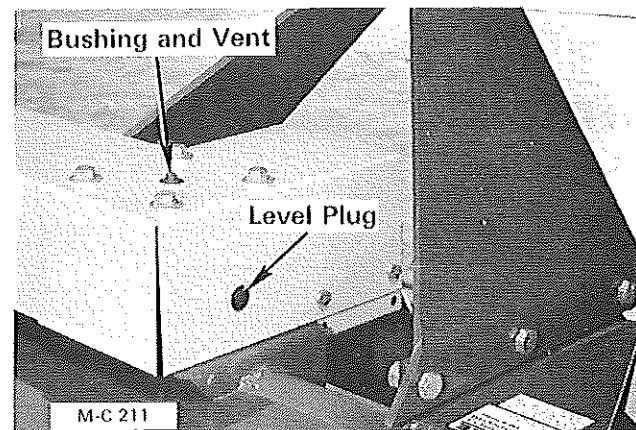

Figure 11
1. Remove the oil level plug on the right side of the gear box and check the oil level, see Figure 11. The oil should be up to the bottom of the level plug hole.